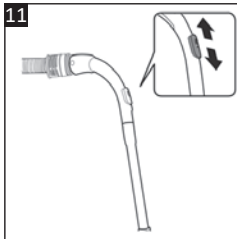

Fig. 11
- When it is difficult to move the floor brush (17) over the floor or carpet, you can also adjust the suction power with the Suction power regulator (8) on the handle of the suction hose (Fig. 11). Slide the switch up/down to adjust.